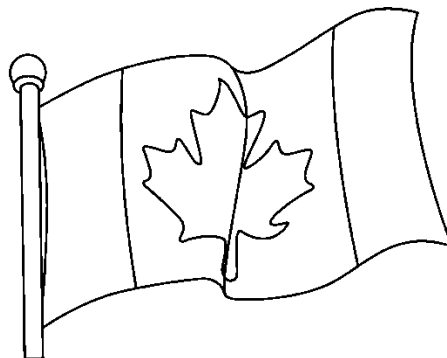

Fig. 5.
**Q12.** A Canadian flag on top of the Peace Tower of the Parliament building is blown by the wind as shown in Fig. 5. The wind speed is constant and uniform, but the flag is “waving”, i.e. it exhibits a wavy motion. As such, it essentially visualizes the flow behind the flag pole. In this case, the flow behind the flag pole is: